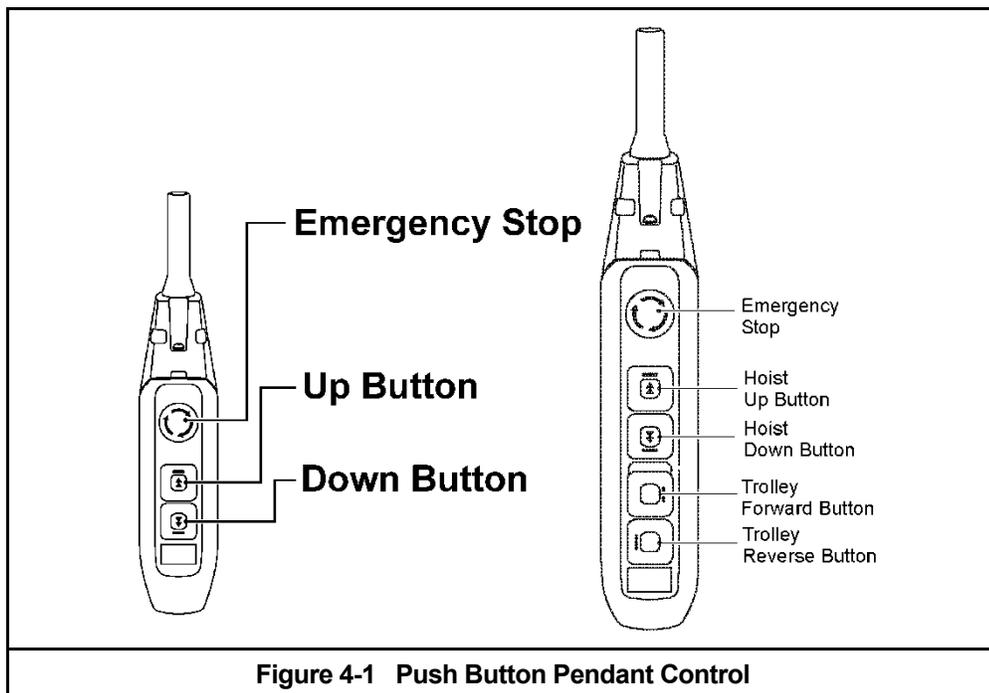

Figure 4-1 Push Button Pendant Control
- 4.3.1 Emergency Stop Button – Press the Emergency Stop Button to perform an emergency stop and lock-out of hoist motion controls as shown in **Figure 4-1**. Turn the Emergency Stop Button clockwise to unlock the controls and allow hoist operation.
- 4.3.2 Single Speed Pendant Control – When using the pendant control depress the UP button to raise the hoist load chain/hook or the DOWN button to lower the hoist load chain/hook as shown in **Figure 4-1**. To stop motion release the buttons.
- 4.4.5 Single Speed Pendant Control - When using the pendant control depress the Up button to raise the hoist's hook or the Down button to lower the hoist's hook as shown in **Figure 4-1**. Depress the Forward and Reverse buttons to move the trolley horizontally. To stop motion release the buttons.